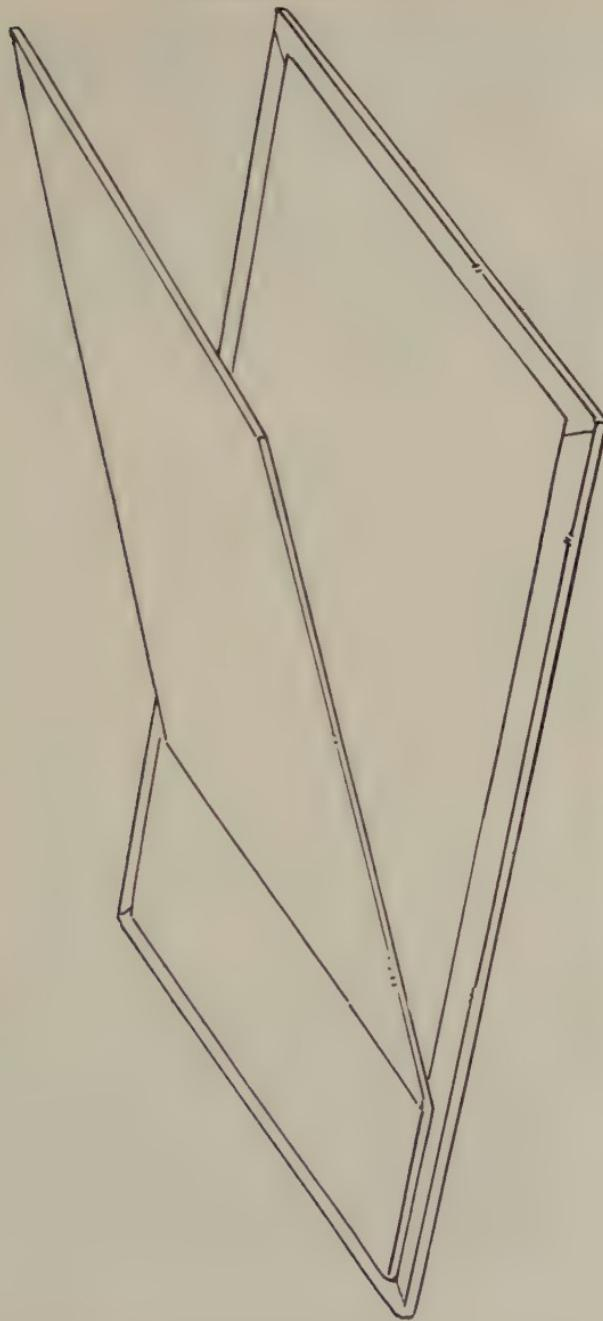

FIG. 79—EASEL ATTACHED TO BACK OF CALENDAR FACE BOARD
15. Turn the easel board face down on a piece of newspaper, place another piece of paper over the large lower portion of the easel and *glue-off* carefully the narrow board back of the easel (this is the 2" wide piece). Affix this carefully to the back of the face board, *at the top* where your lining paper does not cover it. (Fig. 79.)